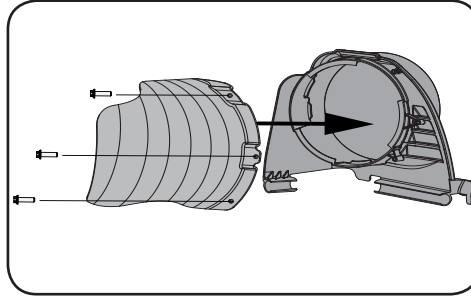

Figure 4-9
3. Attach the upper chute support to the chute deflector using the three (3) screws supplied in hardware pack 689-02299. See Figure 4-9.